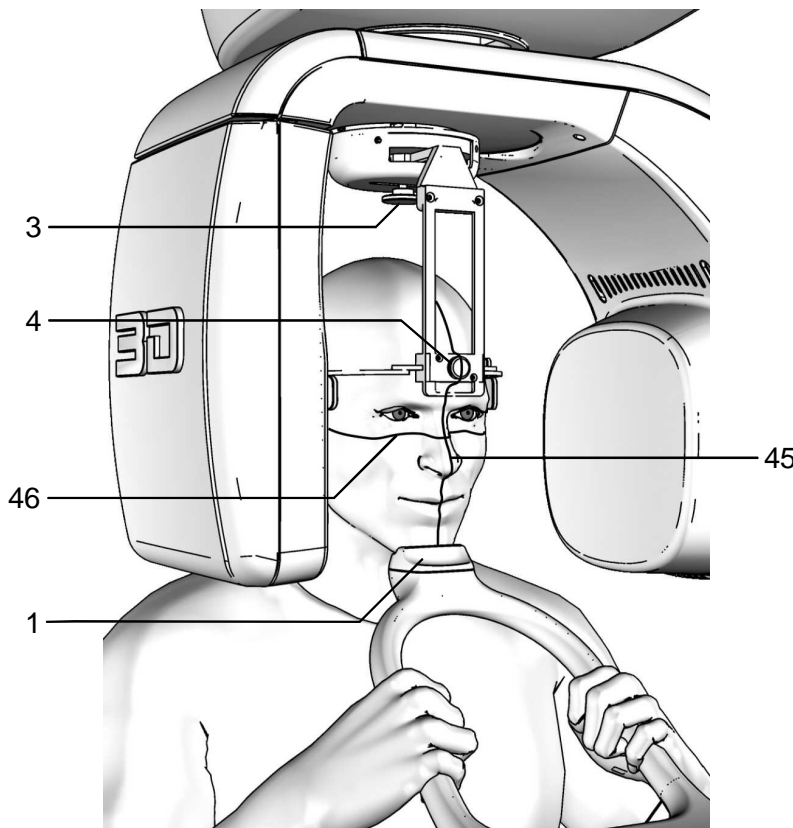

Figure 28 – 3D Sinus positioning
4. Verify that the temple clamp device is in the central position (Figure 14), and if necessary move it using the appropriate control on the top of the support (3 - Figure 28).
5. Place the patient in the temple clamp (Figure 28) by placing the chin on the surface of the relevant support; the hands should rest on the front handgrips; the patient must rest the chin against the reference on the chin support.
9. Place the temple clamp in contact with the patient's head by means of the appropriate knob (4 - Figure 28). In order to help the patient maintain the correct posture, use the head strip on the temple clamp passing it behind the nape of the patient's neck; check that, during this phase, the patient has not changed position.
- 11.** Press the key "Patient Entrance" (6)  to confirm the parameters. The luminous centring devices switch off and the rotating arm goes to its examination start position. Once alignment has been completed, the following message will be displayed: